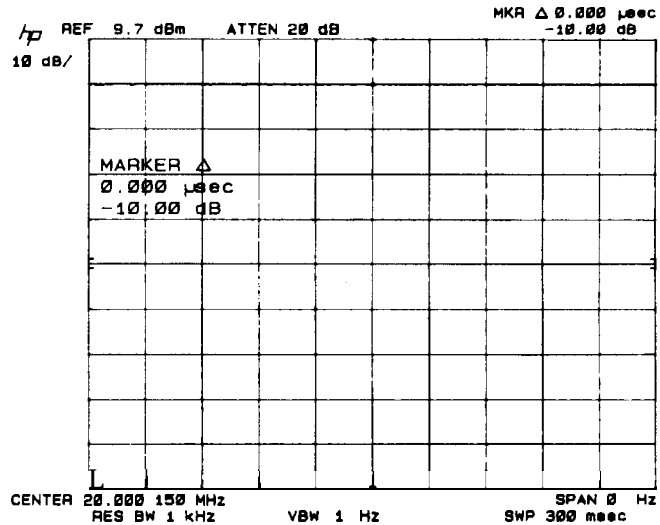

Figure 2-22. Amplitude Fidelity Measurement
6. Press **MARKER A**. Step the frequency synthesizer output amplitude from + 10 dBm to -80 dBm in 10 dB steps, noting the **MARKER A** amplitude (a negative value) at each step and recording it in column 2 of Table 2-16. Allow several sweeps after each step for the video filtered trace to reach its final amplitude (see Figure 2-22).